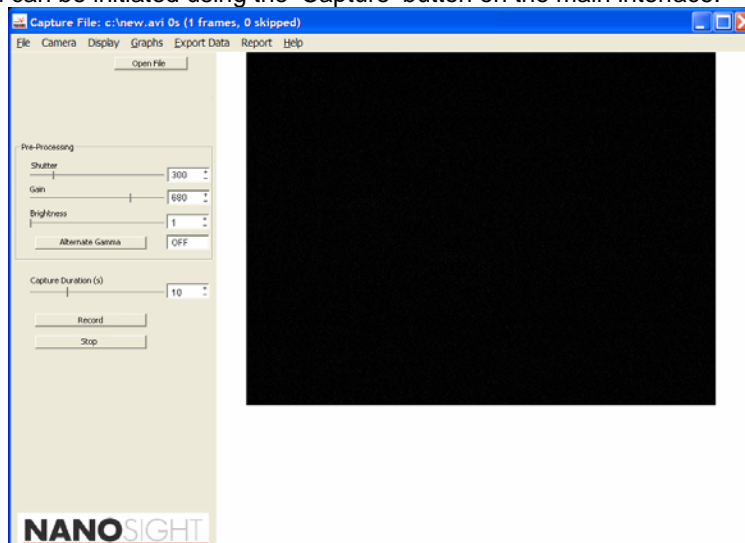

Figure 1: Video capture interface.
Step 6: Record – Starts the video capture. The video can be stopped at any time by using the 'Stop' button. Figure 1 shows the camera capture interface. As can be seen at the top of the image, the software informs the user if any frames are dropped from the camera upon capture. Dropped frames are usually associated with a slow processor speed, hard discs which are nearly full, or with high computer activity. It is important to record a video clip with no dropped frames as this will affect the calculated particle sizes. If the computer drops (skips) frames whilst the video is capturing, the preview screen can be switched off in order to help reduce the computer workload. This option is located in the 'Camera' section of the